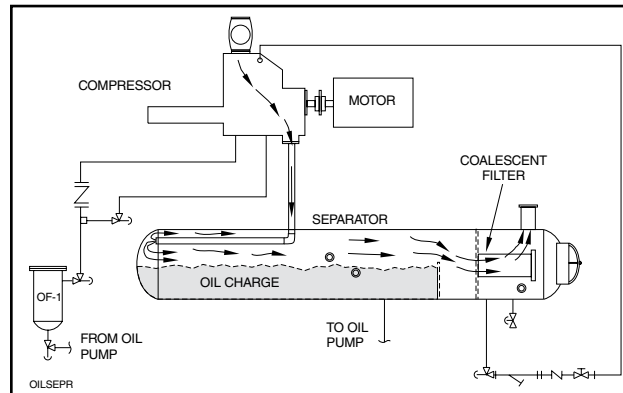

Figure 20
**NOTE: Normal Operating Level is midway between the two sight glasses as shown in Figures 20 and 21.**